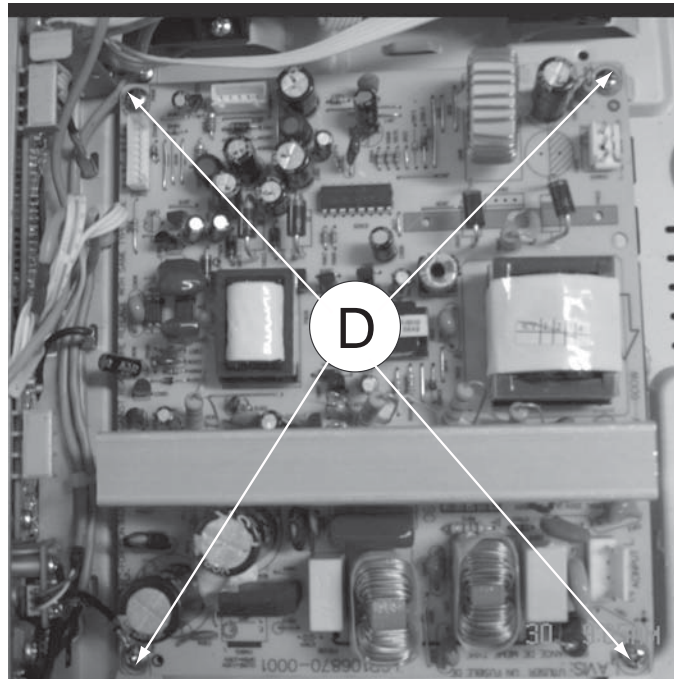

Figure 7
- 1) Loosen 4 screws "D" at the top of the Power Board as shown in figure 7